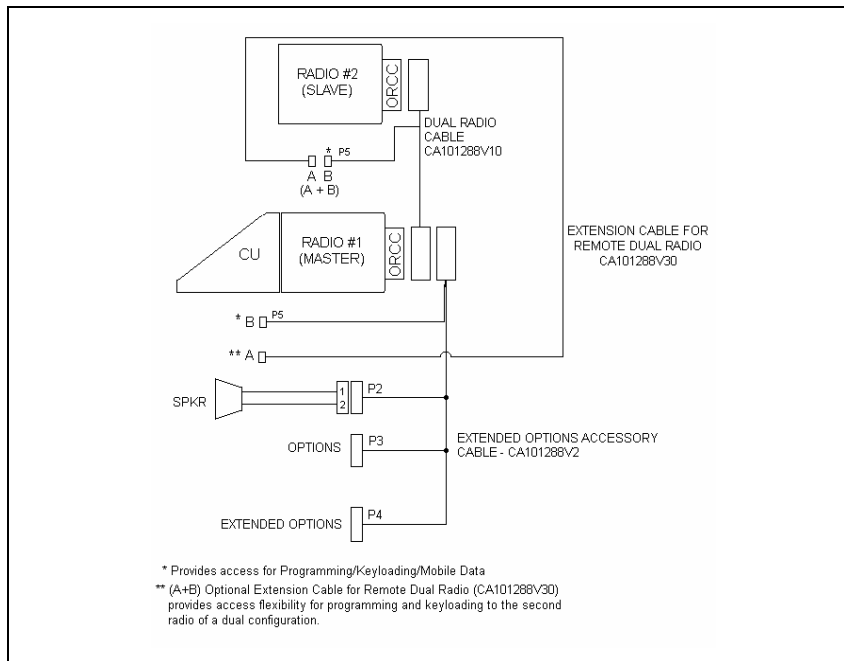

Figure 11-1: M7100^{IP} Dual Radio Front Mount/Remote Mount Installation Configuration
1. Plan the mounting locations of the two Radio Units. Note that the maximum cable length allowed between the two radios is two meters. Run Dual Radio Cable (CA101288V10) between locations for Master and Slave Radio Units (refer to Figure 11-1). Be sure to locate the P2/P3 connector assembly at the Master Radio Unit.